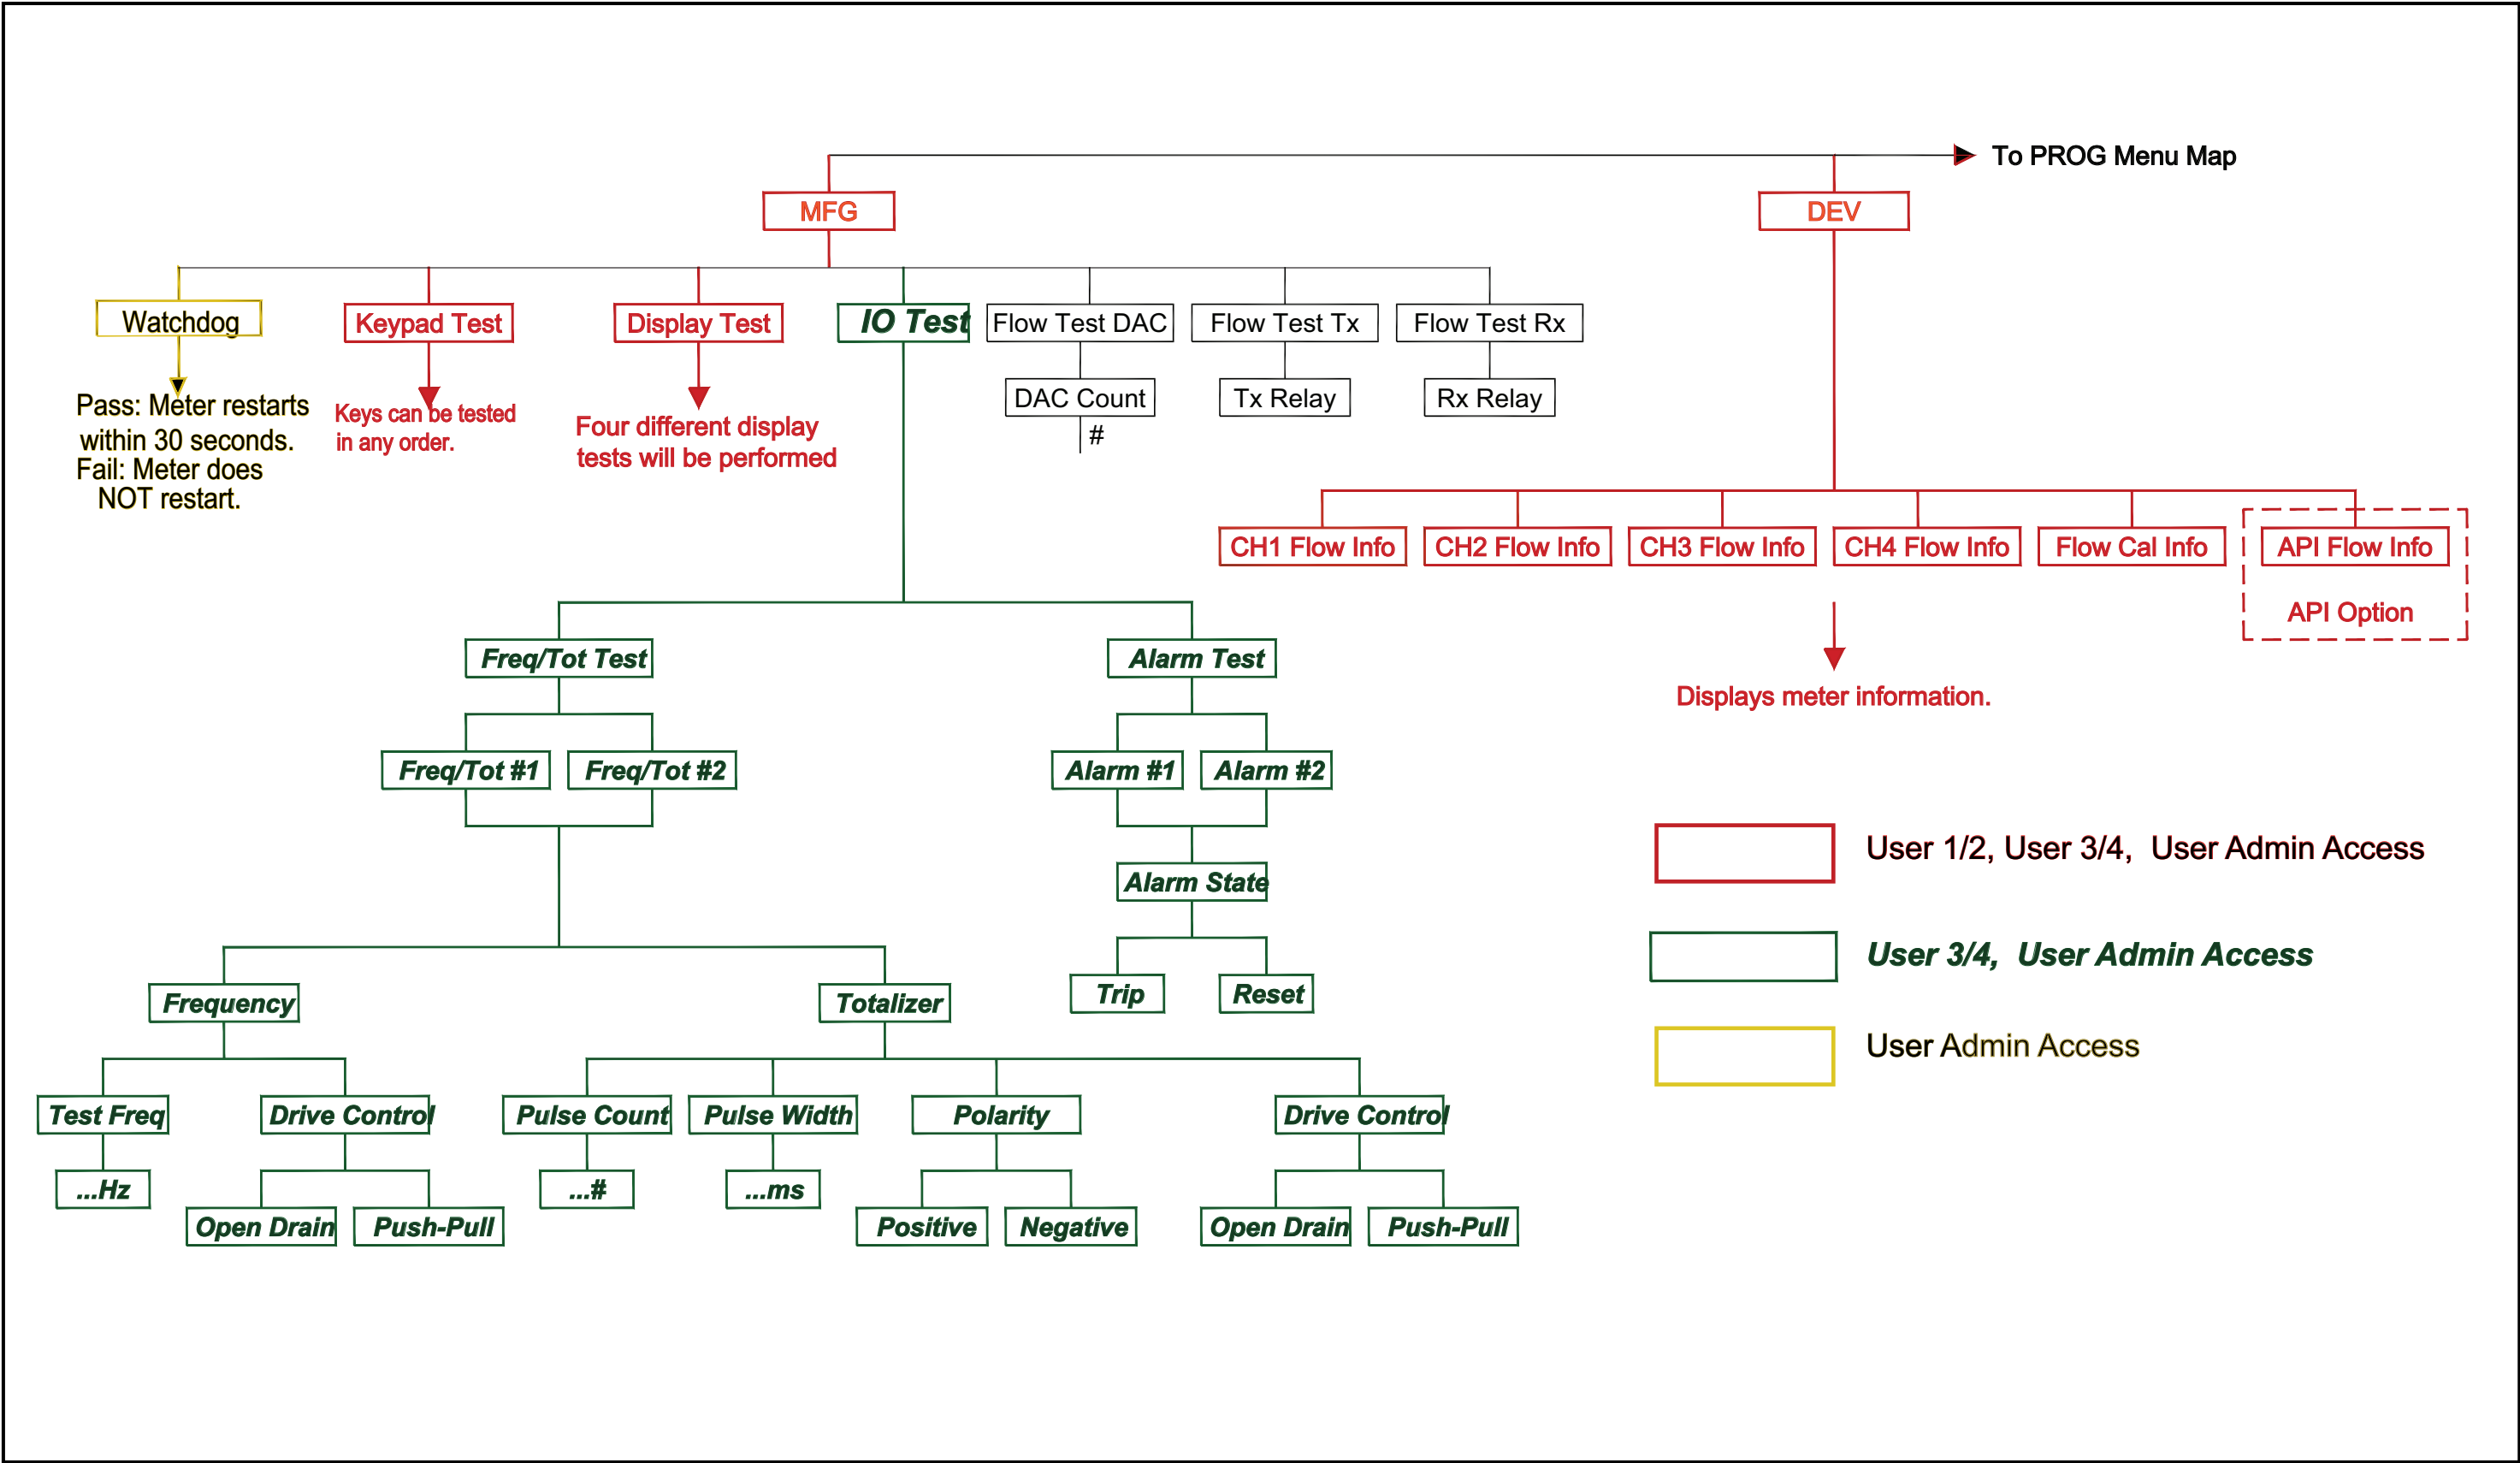

Figure 66: MFG and DEV menu map
- *Figure 66, “MFG and DEV menu map” on page 109*